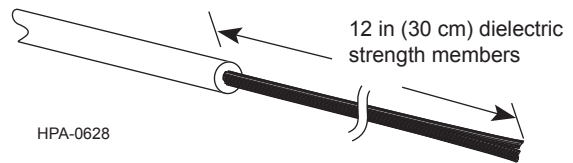

Figure 31
**Step 5:** Cut the exposed fiber at the jacket end, leaving only the yarns (Figure 31).